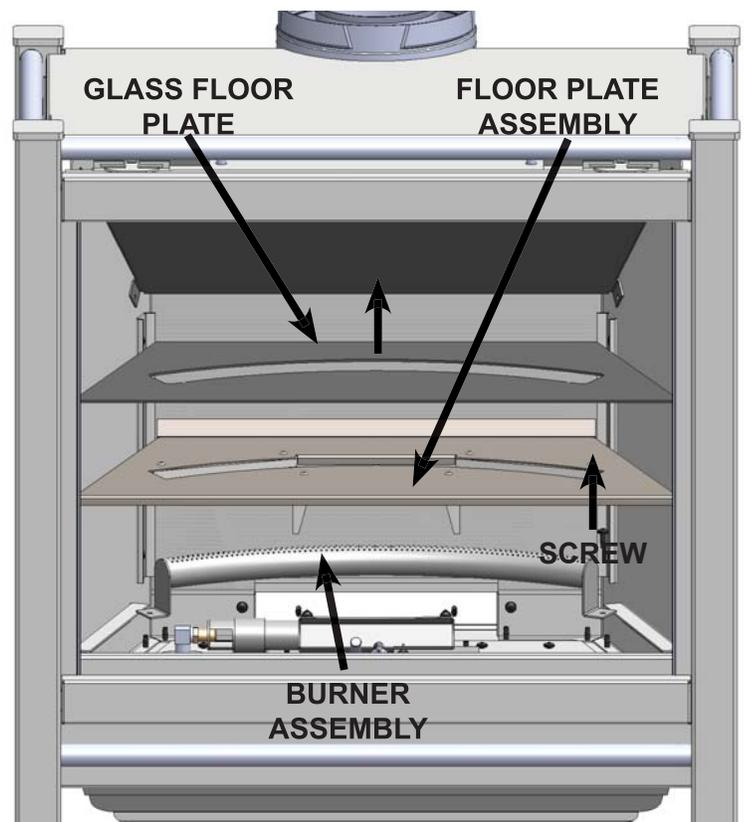

Fig.3
3. Remove the glass floor plate and set it aside. (**Fig.3**)
4. Remove the floor plate assembly and set it aside. (**Fig.3**)
6. Remove the screw from the right hand side of the burner assembly. (**Fig.3**)